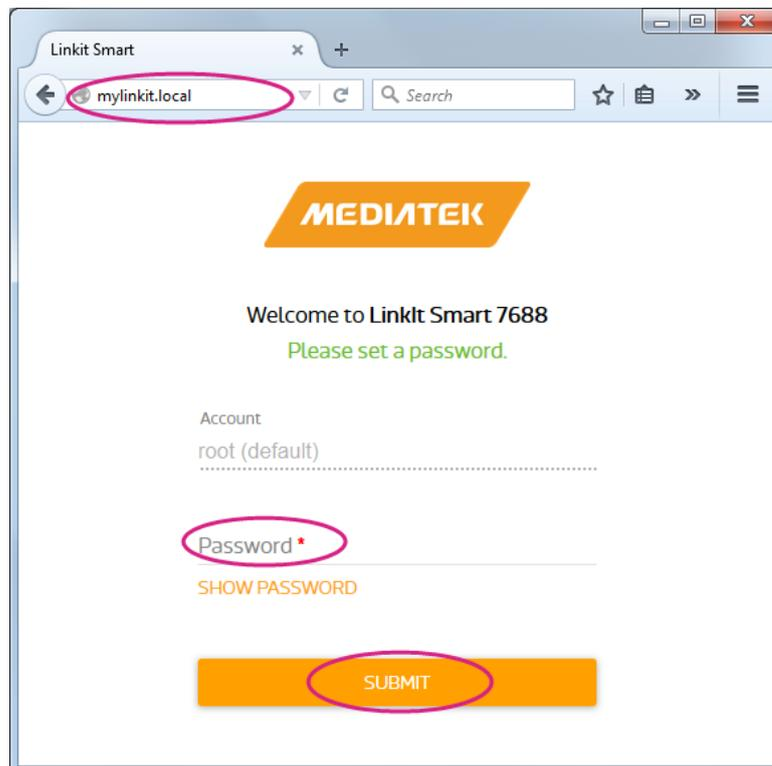

Figure 18 LinkIt Smart 7688 Web UI Sign In
3) In your web browser open <http://mylinkit.local>, as shown in Figure 18.